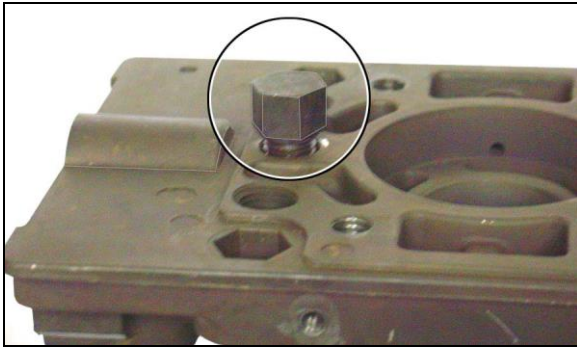

Figure 13
12. Remove plug (9), spring (6), piston (5), and O-ring (7) from endplates (1) and (2). See Figures 13 & 14.